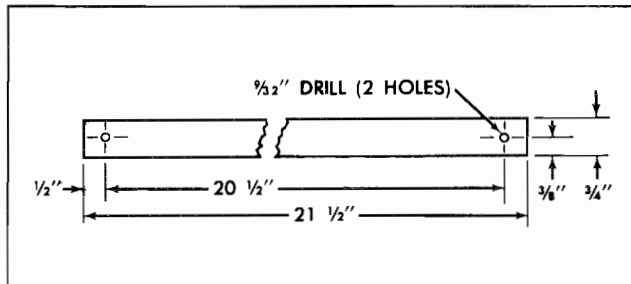

Fig. 9—Heater Hose Retaining Strap
1. Fabricate a strap from 1/64" to 1/32" thick plated steel (Fig. 9).